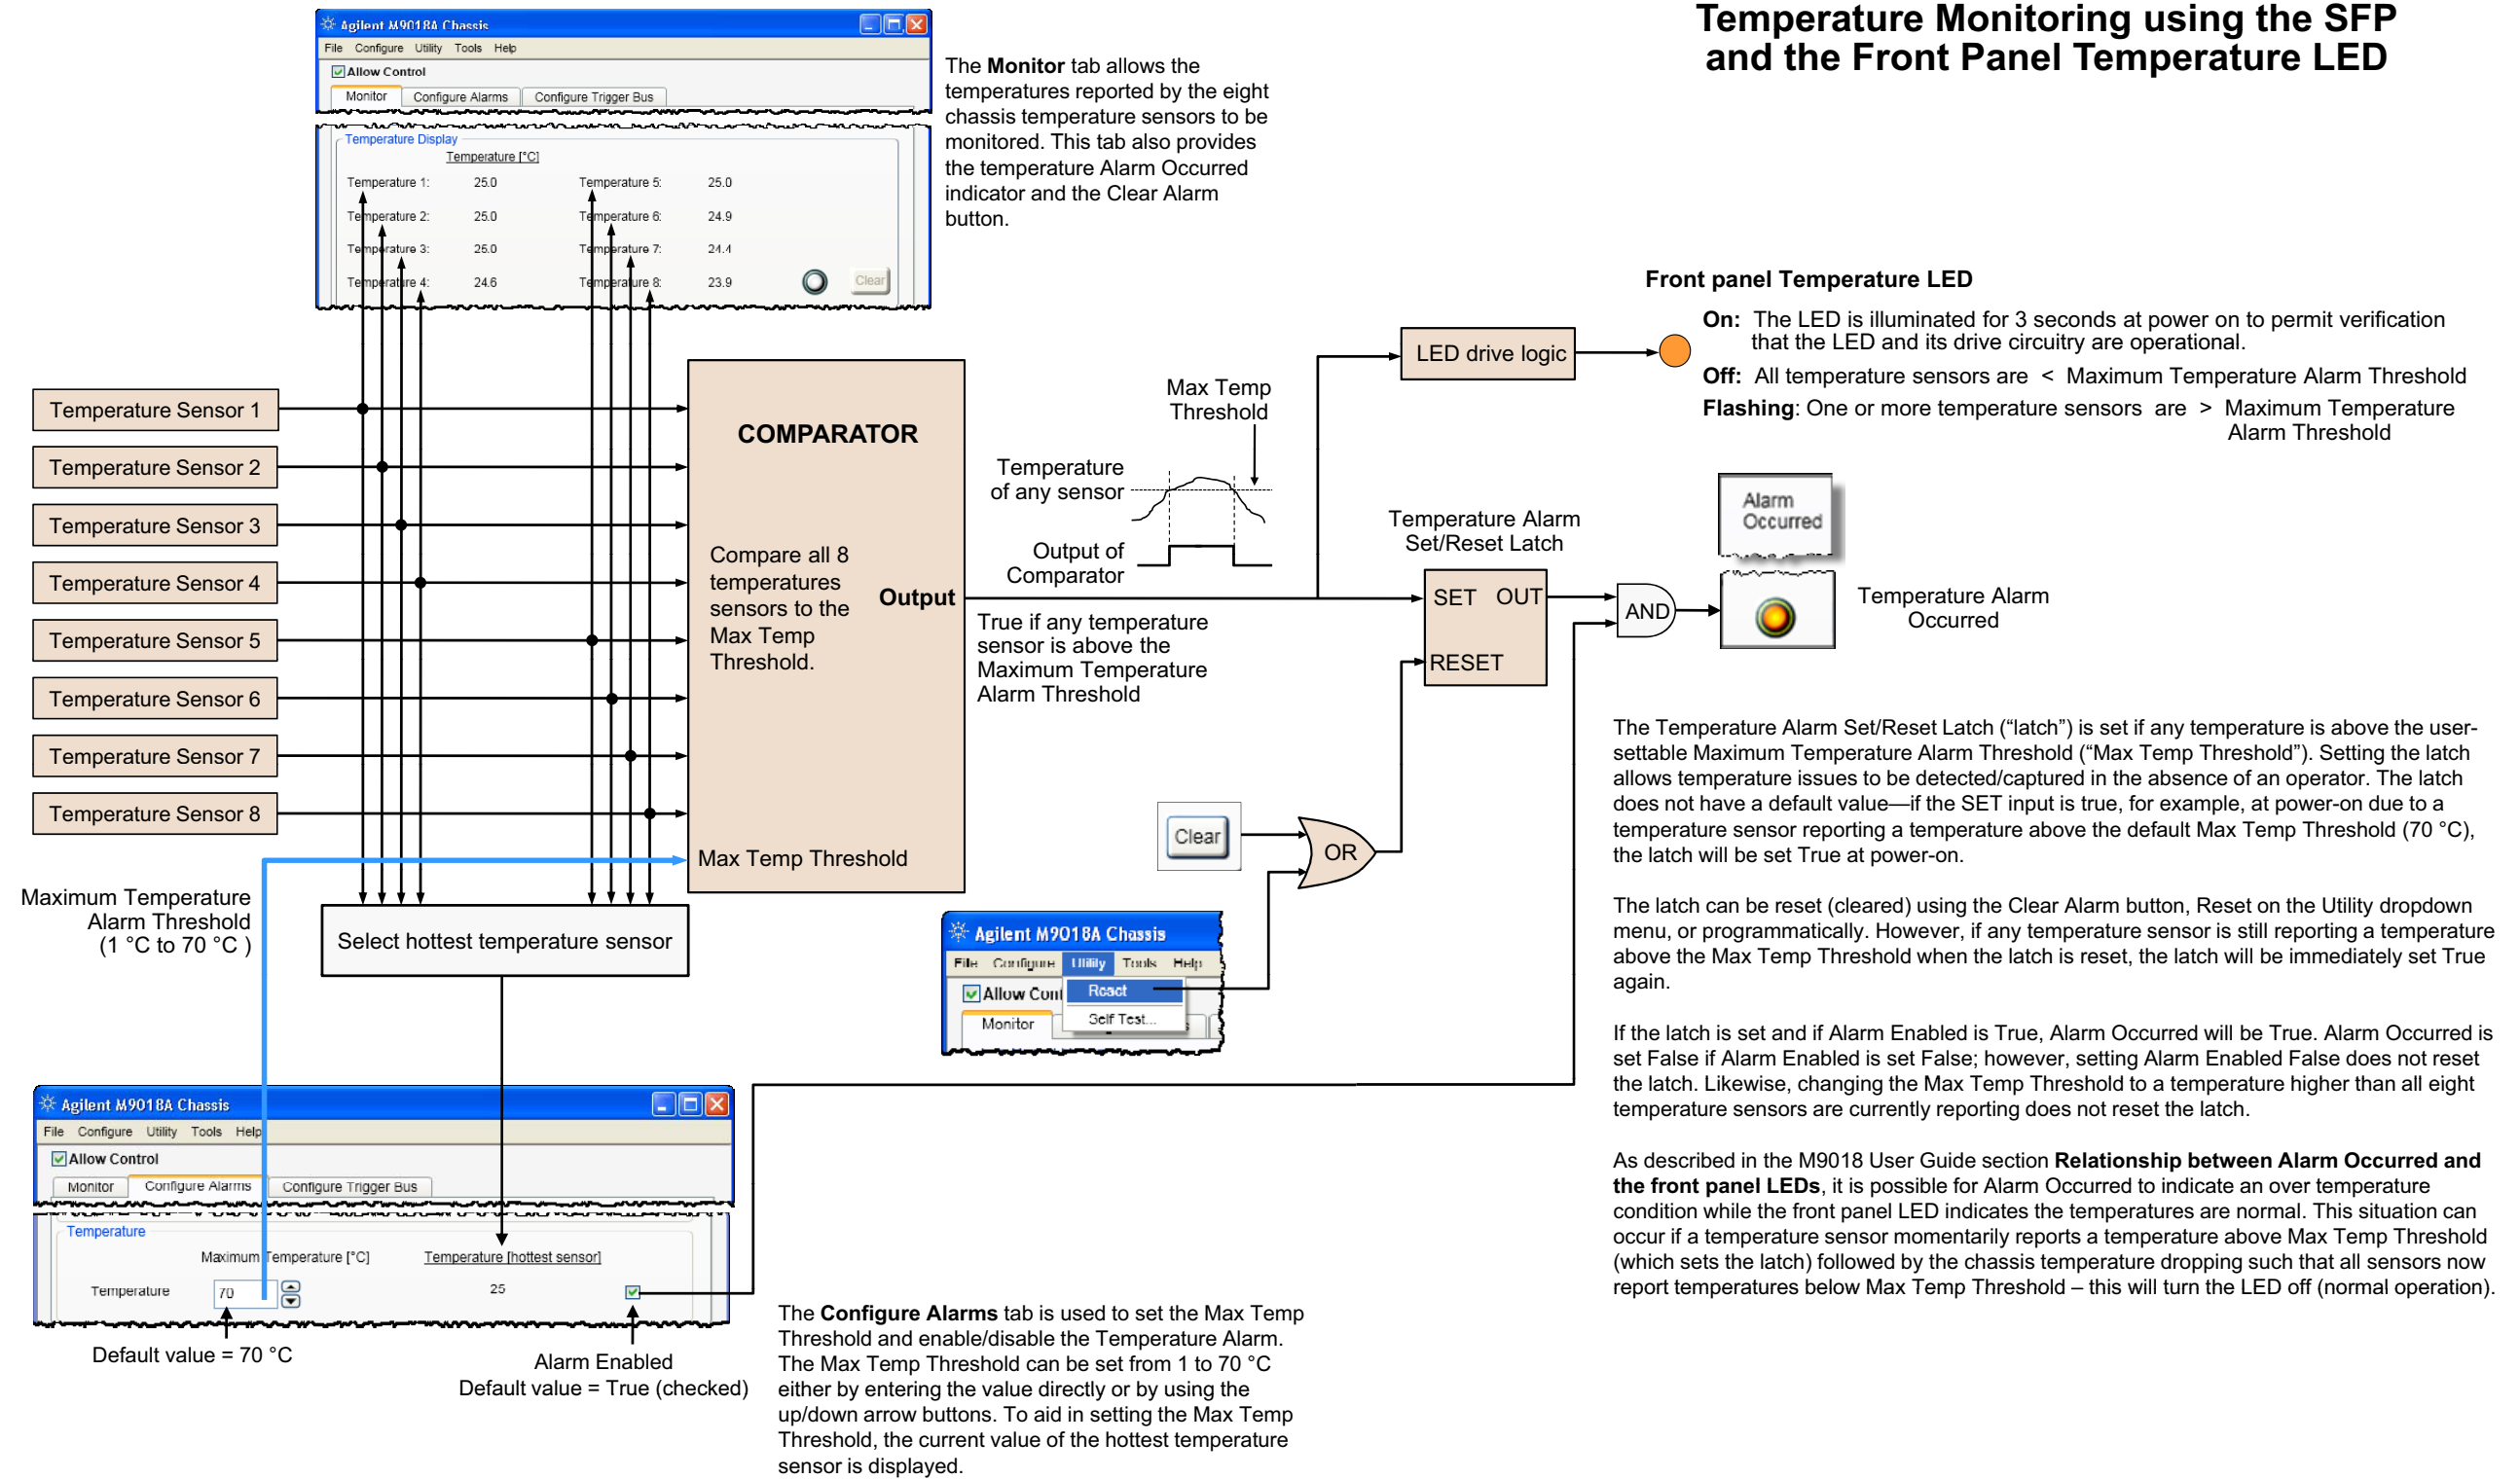

Figure 21
- Temperature Monitoring using the SFP and the Front Panel Temperature LED – Figure 21 on page 45